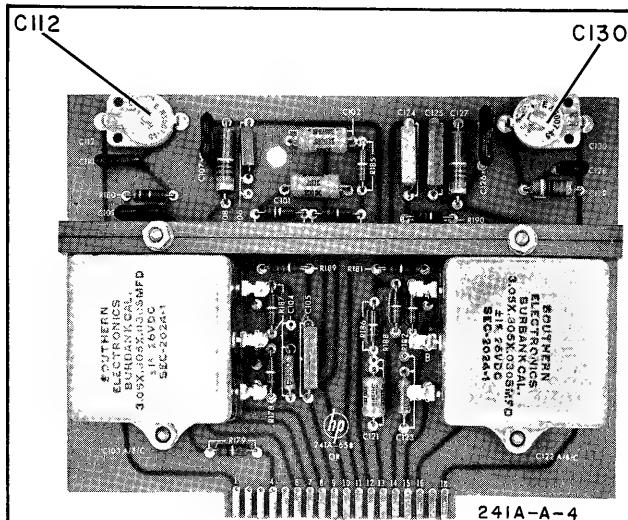

Figure 5-7. Range Capacitor Board Assembly
- c. Adjust trimmer capacitors C112 and C130 (see Figure 5-7) for a frequency indication of 100.2 kc with an error voltage indication of 115 milivolts.